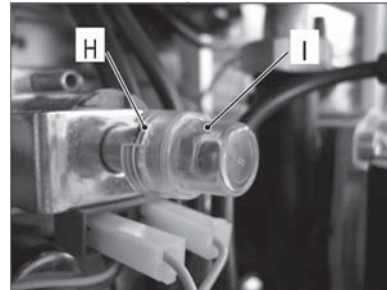

Figure 15.6
- Remove the protection cap I (Fig. 15.6) from the mechanical pressure adjustment components levering with a screwdriver in the slots H.